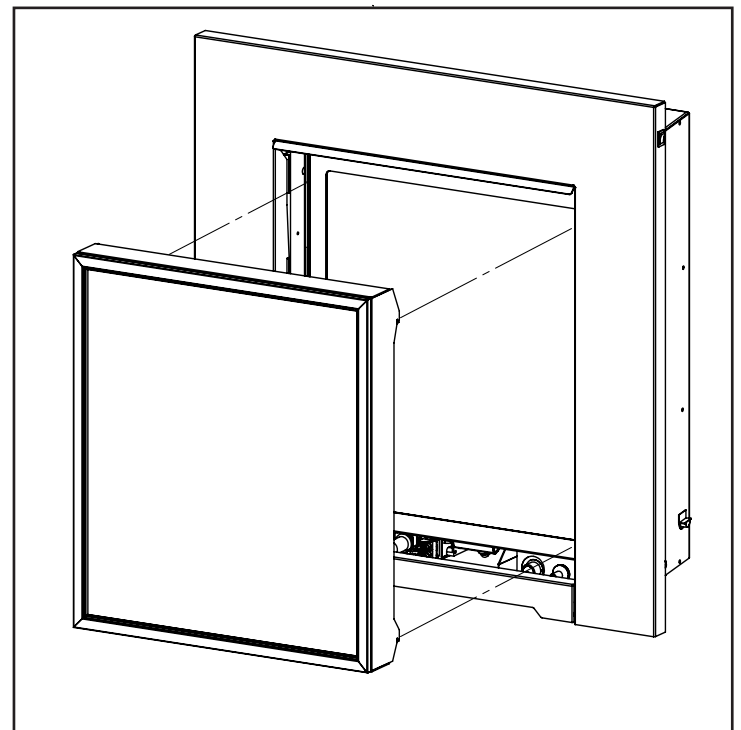

Figure 68: Installing Safety Screen onto Brackets.
2. Lift the face upright in front of the fireplace with the four (4) hooks pointing towards the fireplace. Slide the hooks into the corresponding brackets on each side of the cabinet (see Figure 68). Ensure the hooks are secure before releasing the safety screen.